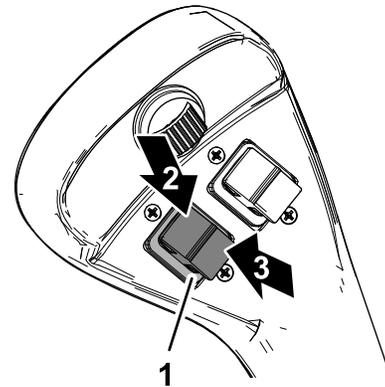

Figure 20
- Press and hold the hydraulic-attachment switch up to operate a hydraulic attachment in the forward hydraulic-flow direction (Figure 20).